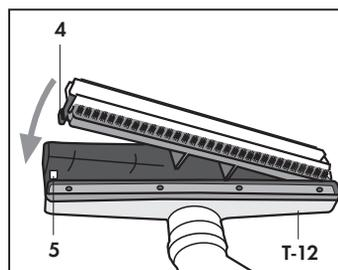

Fig. 19
**FITTING THE BRISTLED FRAMES (Z1 and Z2) ONTO THE MULTIPURPOSE BRUSH (T) (Fig. 19)**